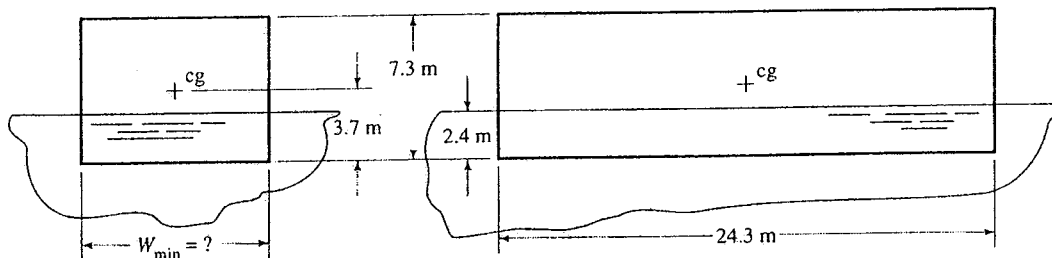

Figure 1 / Rajah 1
- [b] Figure 1 shows a river scow used to carry bulk materials. Assume that the scow's center of gravity is at its centroid and that it float with 2.4m submerged. Determine the minimum width that will ensure stability in seawater.